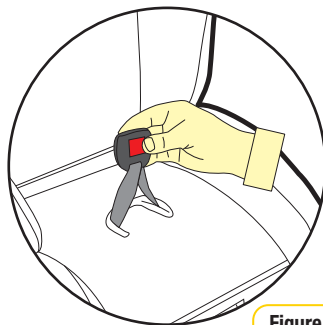

Figure 1
- Step 1:** Lift the buckle and determine the required buckle height (refer Figure 1).
- Step 1:** Place the child restraint in desired upright or reclined position, with the back against the back of the vehicle seat, directly in line with the anchorage point (refer Figure 1).